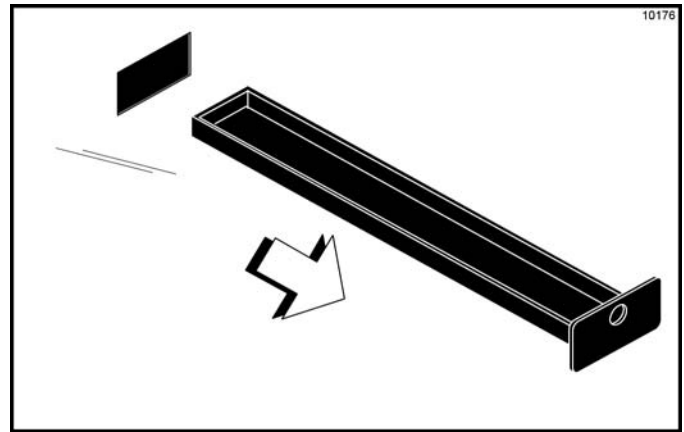

Figure 6-124
9. Remove the two short drip pans from the rear panel. Remove the two notched drip pans from the left and right side panels. Take them to the sink for cleaning. (See Figure 6-124.)